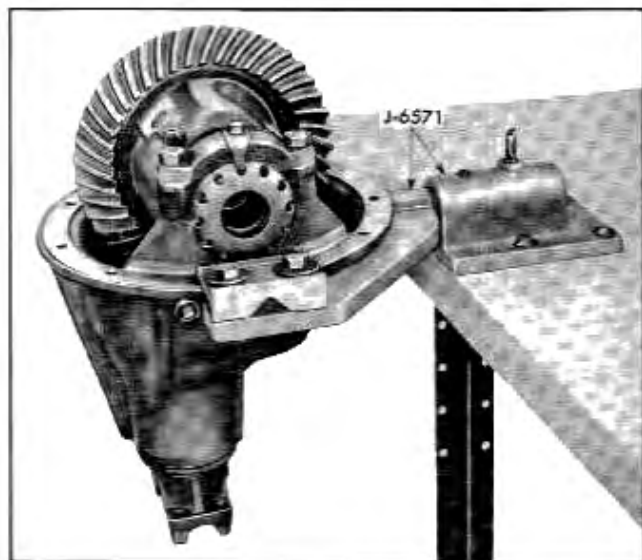

Fig. 4-11 Differential Mounted in Carrier Fixture J-6571
1. Wash interior parts of assembly with cleaning fluid and mount in Carrier Fixture J-6571 (Fig. 4-11).